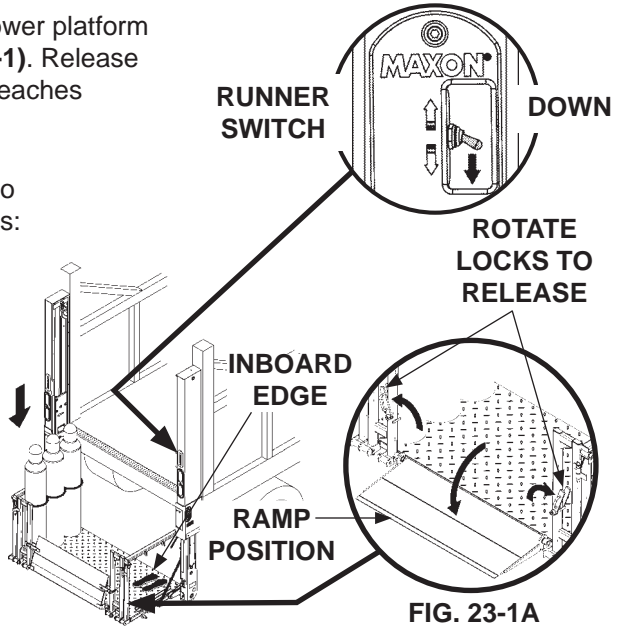

FIG. 23-1
1. Use runner switch to lower platform to the ground (**FIG. 23-1**). Release switch when platform reaches ground level.